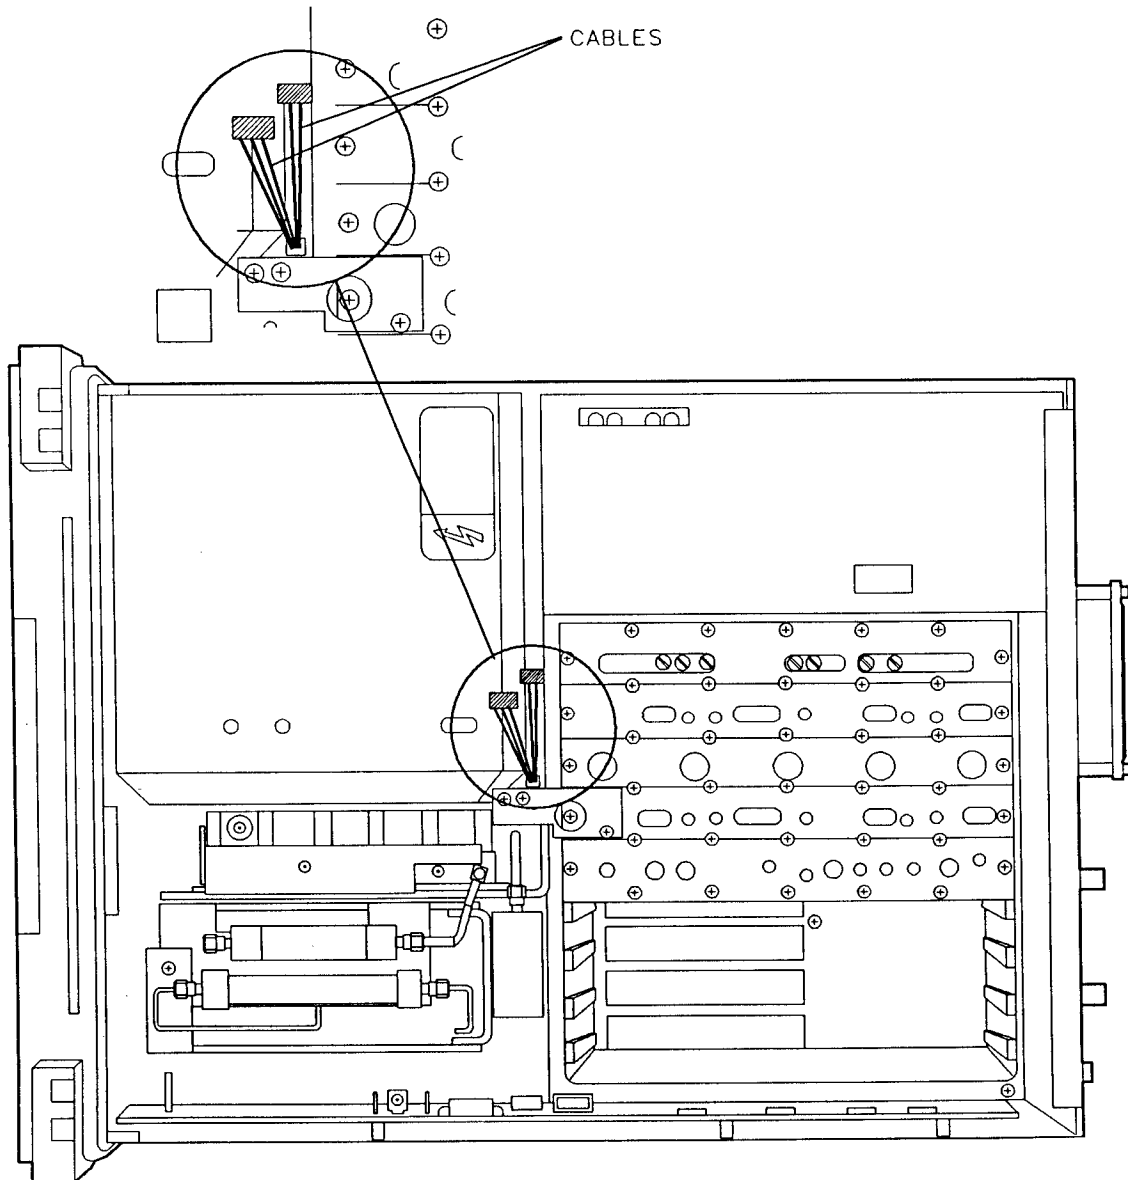

Figure 5. Routing the Cable through the Chassis
13. To route the speaker cable through the chassis, push the speaker cable from the bottom side of the analyzer while pulling the speaker cable (gently) from the top side of the analyzer. If necessary, use needle nose pliers to guide the cable through the chassis. (See Figure 5.)